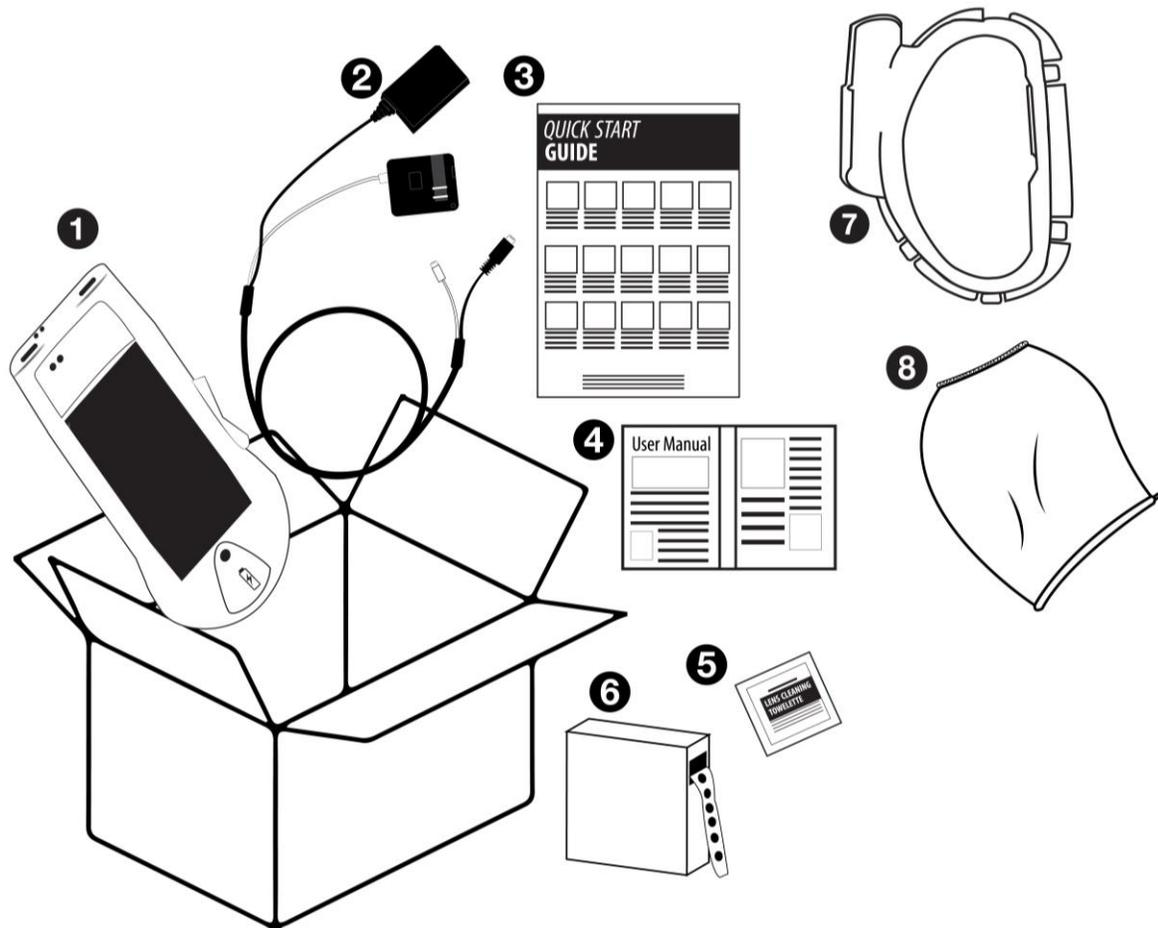

Figure 1: MolecuLight *i:X* Imaging Device and its components
The MolecuLight *i:X* Imaging Device comes fully assembled and ready for use. The standard system configuration includes items 1-6 illustrated in Figure 1 and detailed in Table 6 below. These items allow the MolecuLight *i:X* Imaging Device to be used in a patient care setting.
| # in Figure 1 | Item | Description |
Note The MolecuLight DarkDrape and MolecuLight Adapter (Figure 1, items 7-8) are not part of the MolecuLight *i:X* System configuration. They are optional accessories that may be ordered separately.
| # in Figure 1 | Item | Description | MolecuLight Part # | Reorder from MolecuLight |